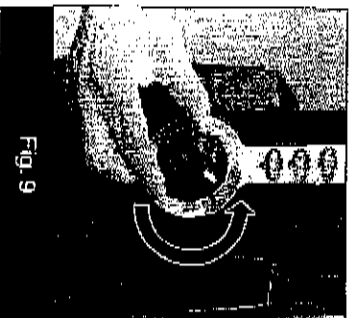

Fig. 9
- Push and turn the control knob counterclockwise and position the knob at the "cool" setting (Fig. 9).